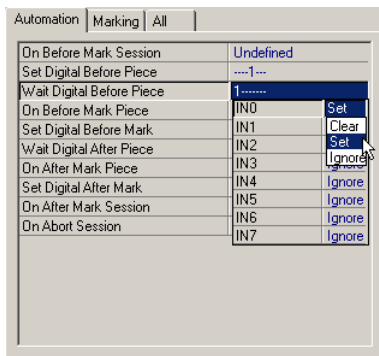

Figure 11-4 Setting “Wait Digital Before Piece”
- 2 Click *IN0*, then select Set from the drop-down list (Figure 11-4).